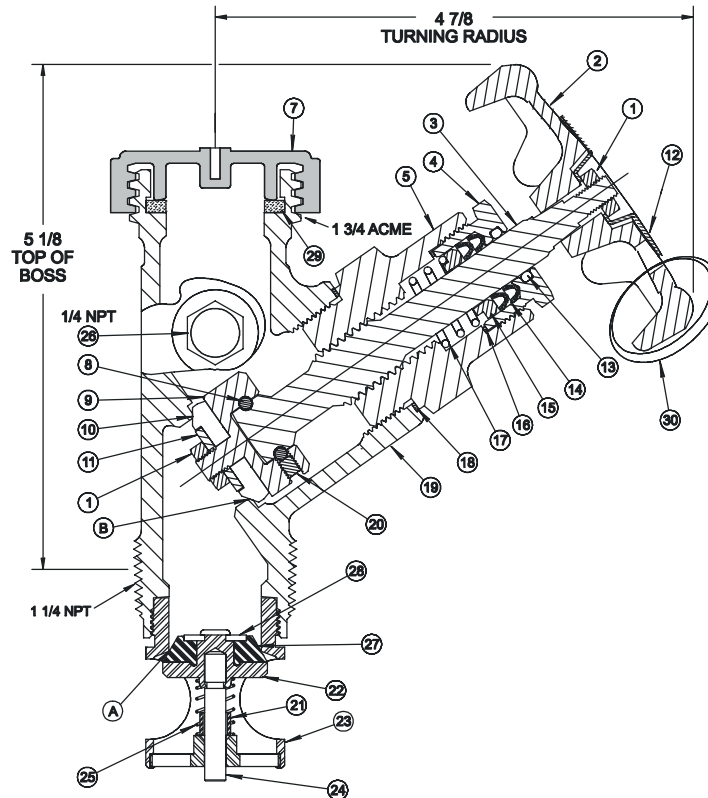

FIG. 1
**REFER TO FIGURE 1 FOR EACH OF THE FOLLOWING PROCEDURES.